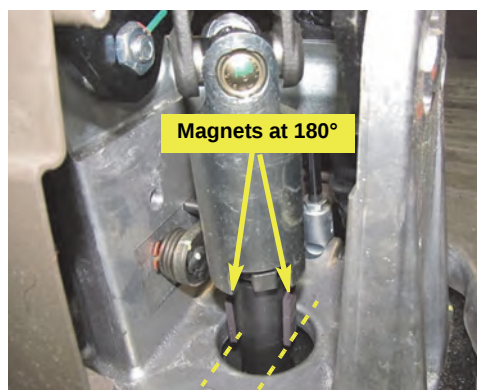

Figure 3a: Installed magnets
Using the two-part epoxy **SB**, attach magnets **SA** 180° apart on the steering shaft. Set the center of the magnets 1½" from the clamp coupling (Figure 3a).
Figure 3a with inset: Installed magnets
- a. Clean two magnet-size areas of the exposed steering shaft, 180° apart, below the universal joint lower yoke then, using the two-part epoxy **SB**, attach magnets **SA**. Align the base of the magnets with the base of the cast alloy column support (Figure 3a).